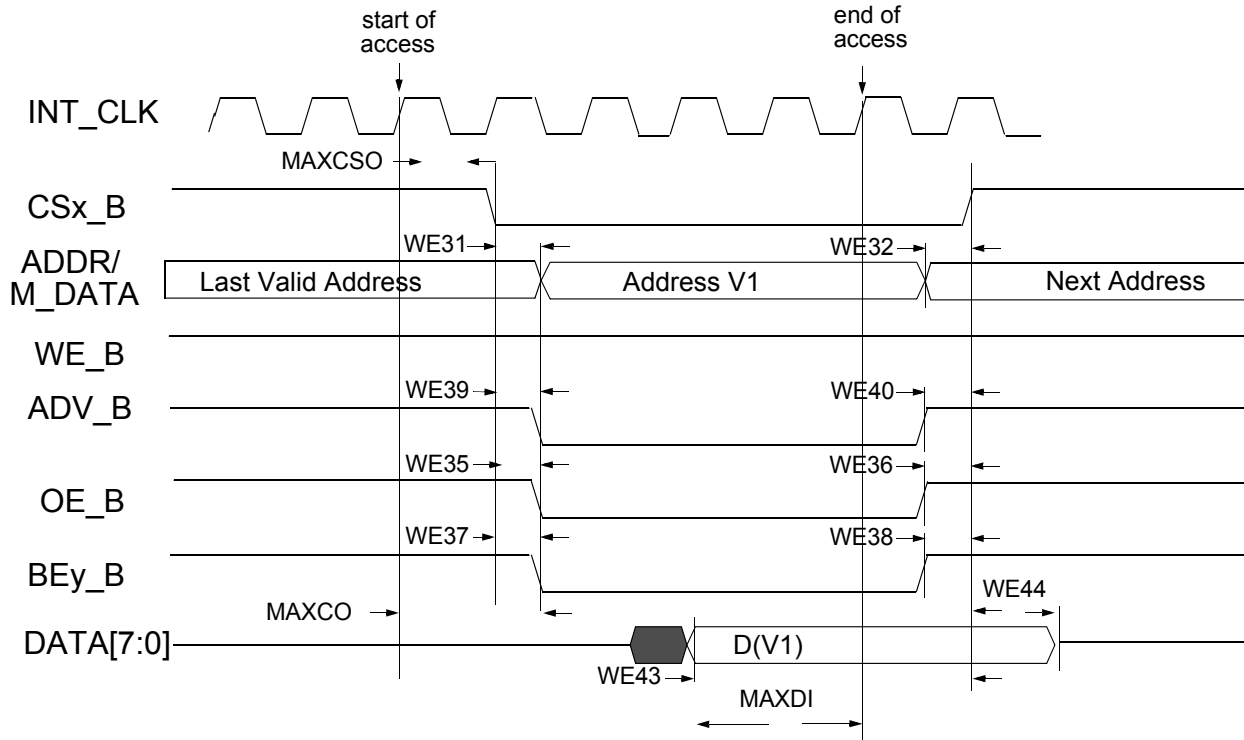

Figure 22. Asynchronous Memory Read Access (RWSC = 5)
Figure 22 through Figure 27, and Table 40 help to determine timing parameters relative to the chip select (CS) state for asynchronous and DTACK EIM accesses with corresponding EIM bit fields and the timing parameters mentioned above.
Asynchronous read and write access length in cycles may vary from what is shown in Figure 22 through Figure 25 as RWSC, OEN, and CSN is configured differently. See i.MX53 reference manual for the EIM programming model.